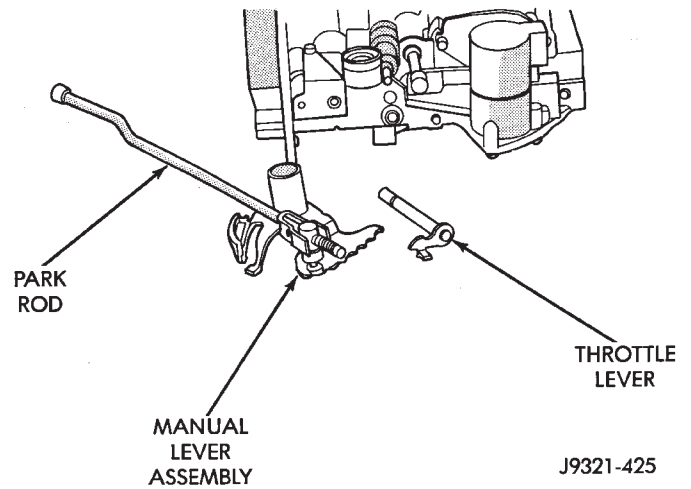

Fig. 57 Manual And Throttle Lever
(17) Remove manual lever and throttle lever (Fig. 57). Rotate and lift manual lever off valve body and throttle lever shaft. Then slide throttle lever out of valve body.